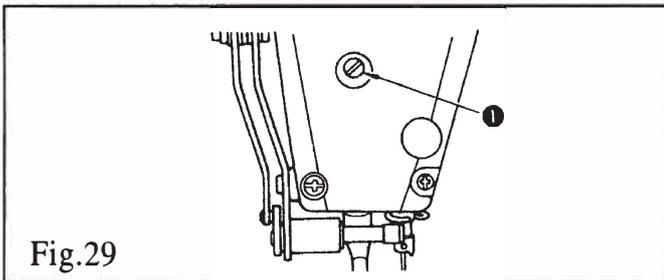

Fig.29
24. AJUSTE DE LA ALTURA DE LA BARRA PRENSATELAS (FIG.29)